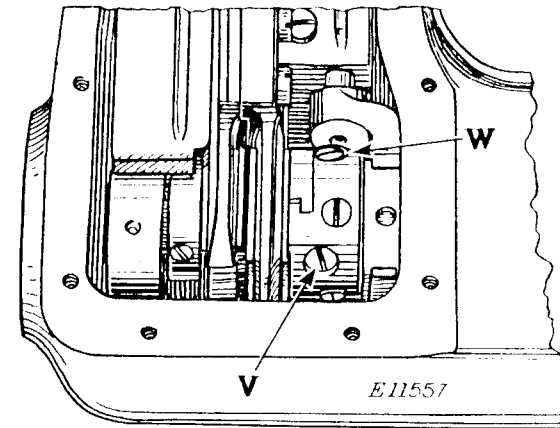

Fig.14
the front of the bed cover. First turn the balance wheel to bring the lock screw (V, Fig.14) underneath the hole, and loosen this lock screw. Then turn the large screw (W) which projects beyond the body of the eccentric, to the left or outward for a longer stitch, or to the right for a shorter stitch. Tighten the lock screw (V) and replace the screw plug.